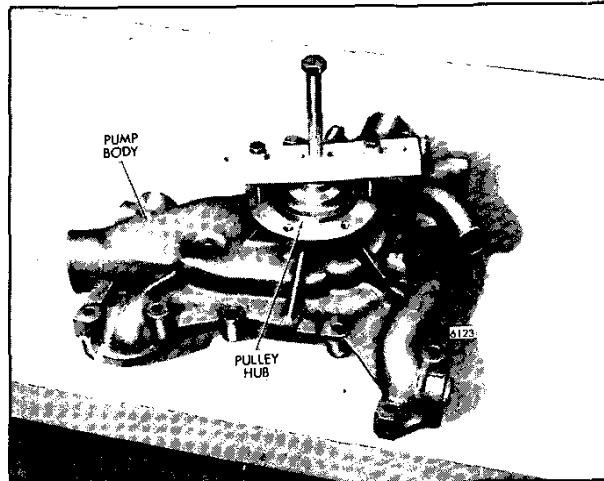
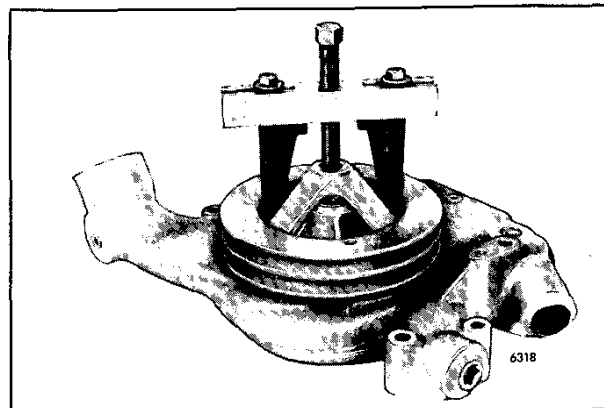

Fig. 4 - Removing Pulley Hub From Bearing Shaft Using Tool J 29190-A
Fig. 5 - Removing Pulley From Bearing Shaft Using Tool J 34117
1. Using puller tool J 29190-A, remove the pulley hub from the bearing shaft (Fig. 4). For the marine low mount pump use puller tool J 34117 (Fig. 5) or equivalent.